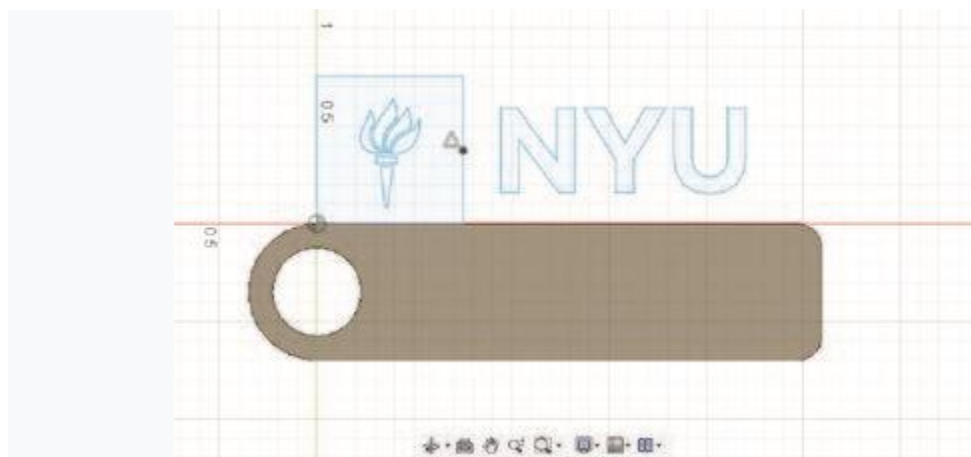

Figure 16: Scale the Box
- vii. Enter a scaling factor of 0.75. (Figure 16)